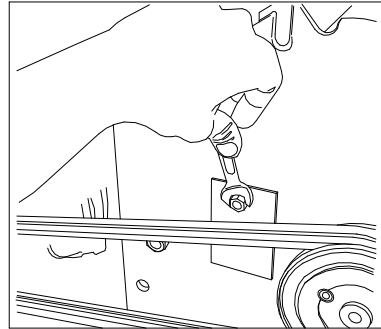

Fig. 21
- Remove the galvanised perforated plate (Fig. 21).